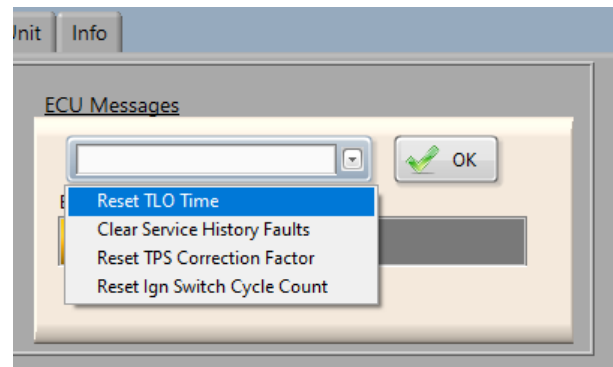

Figure 11
1. From the “ECU Messages” drop-down menu (Figure 11) select one of the following options: